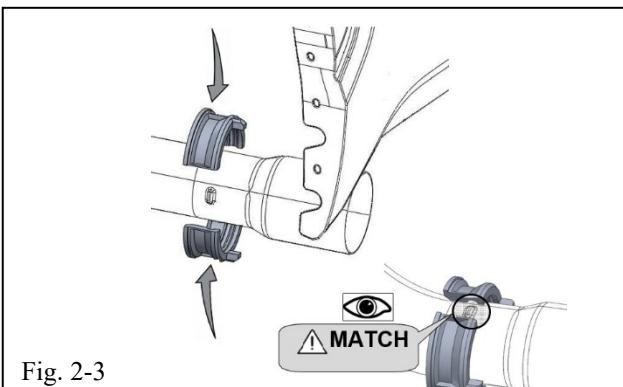

Fig. 2-3
- (c) Align and install the aluminum spaces with the alignment tab on the exhaust pipe (Fig 2-3).